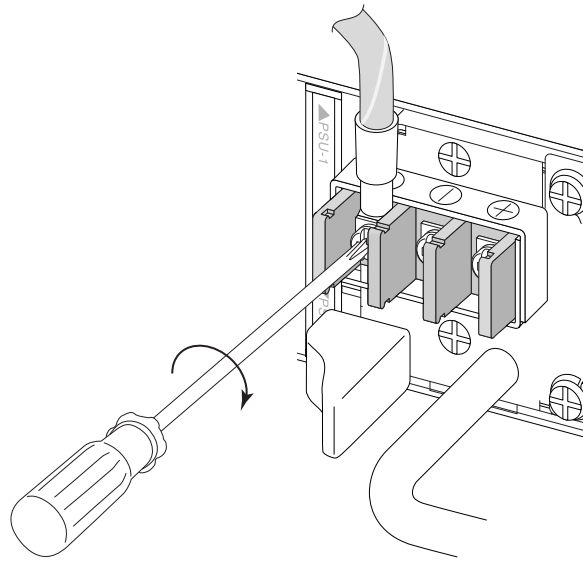

Figure 295: Securing the Ground Wire
- a. Loosen the screw enough to allow the spade terminal to slide underneath the captive square washer (see Figure 295).